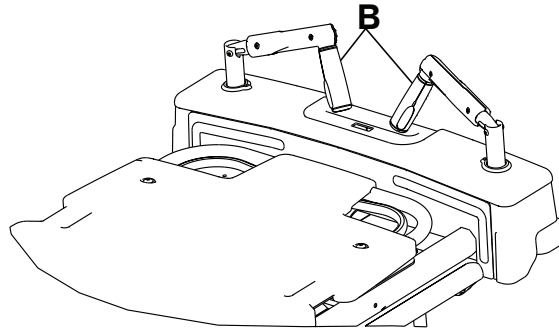

Figure 15 – Zoom handles in the stowed position
13. Stow the **Zoom** handles by lifting up on the **Zoom** handles. Push the **Zoom** handles into the stowed position (Figure 15).